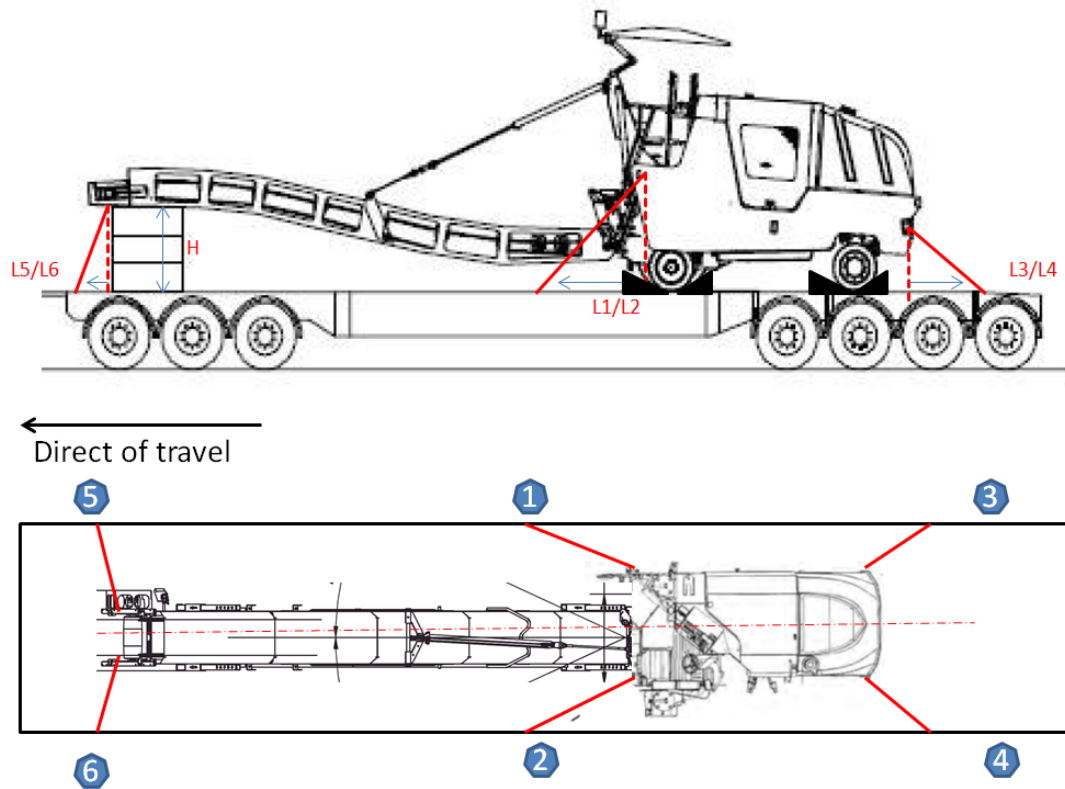

Fig 1
- If the conveyor belt is mounted, place it on its support and lash it as per fig. 1.
- Chock all machine wheels as fig 1.